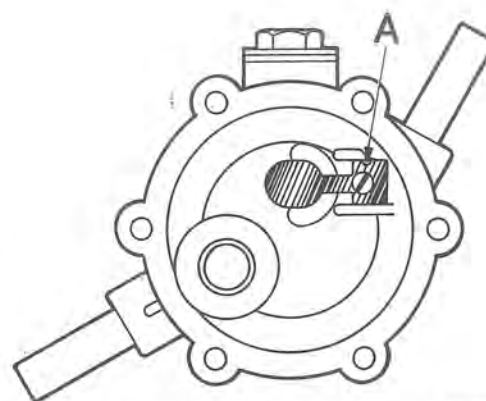

Fig. 2-97. Location of inlet valve
1. Fit the inlet valve, see Fig. 2-97, and the stop arm. Tighten the screw, but only sufficiently so that the spring lies well against the pump body.